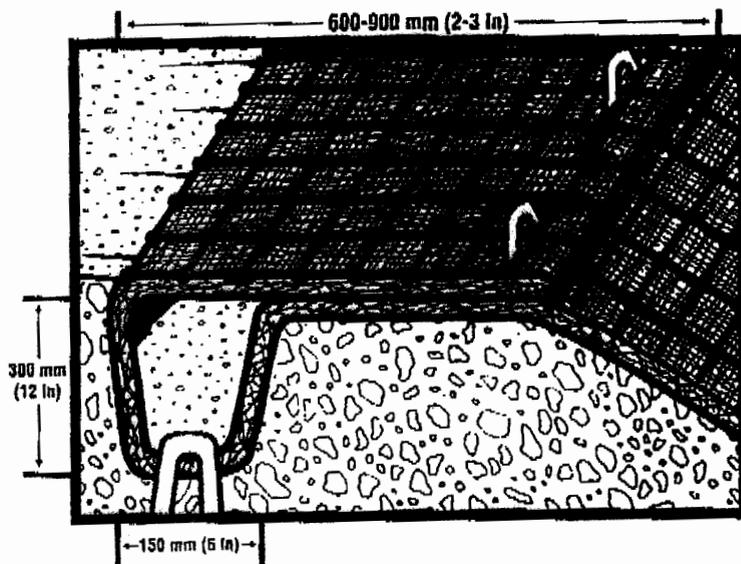

Figure 4: Terminal Anchor Trench (Slopes and Channels)
- Extend TRM 600-900 mm (2-3 ft) over crest of slope and excavate a 300 x 150 mm (12 x 6 in) terminal anchor trench (Figure 4 on page 3).
- Anchor, backfill and compact upstream end of TRM in a 300 x 150 mm (12 x 6 in) terminal trench (Figure 4).